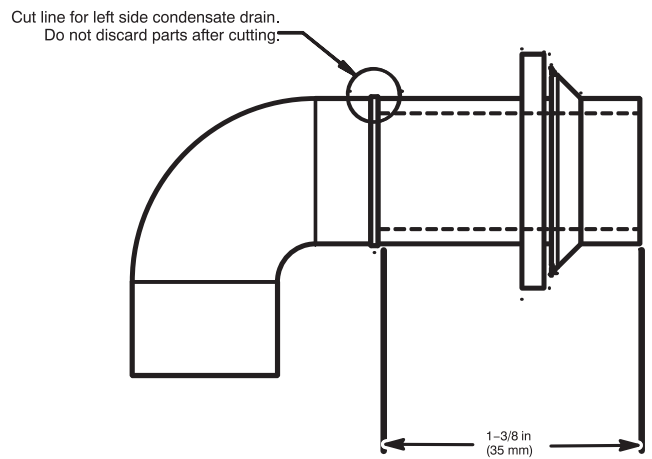

Fig. 13 - Modify Rubber Drain Elbow
3. The Z-pipe is connected to the condensate trap and the outside of the furnace by modifying the formed rubber drain elbow as shown in Fig. 13.
4. Remove the formed grommet from the rubber drain elbow by cutting the elbow along the vertical line located about 1-3/8 in. (35 mm) away from the formed grommet. See Fig. 13. **DO NOT DISCARD THE FORMED GROMMET OR THE RUBBER ELBOW.** Both of these pieces will be used.
TIP FROM CONTRACTORS: When installing the furnace horizontally, use the entire drain elbow (that is, do **NOT** cut as shown in Fig. 13 to connect the trap to the drain line. This helps to prevent bumps and shocks to the drain line from damaging the furnace drain trap. Avoid misalignment of the drain pipe which may cause kinks in the elbow.